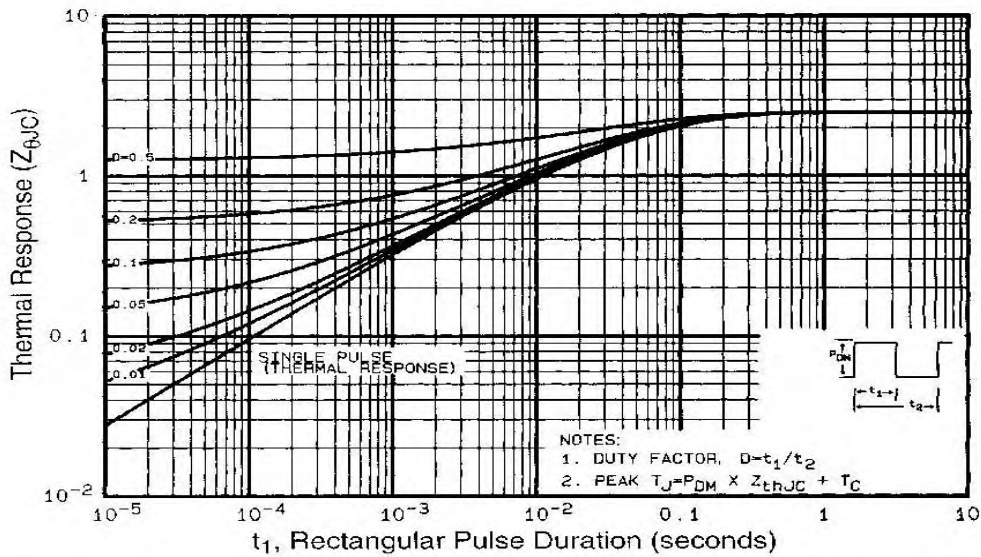

Fig 11. Maximum Effective Transient Thermal Impedance, Junction-to-Case
- ① Repetitive rating; pulse width limited by max. junction temperature. (See fig. 11)
- ② V_{DD} = -25V, starting T_J = 25°C, L = 2.3mH